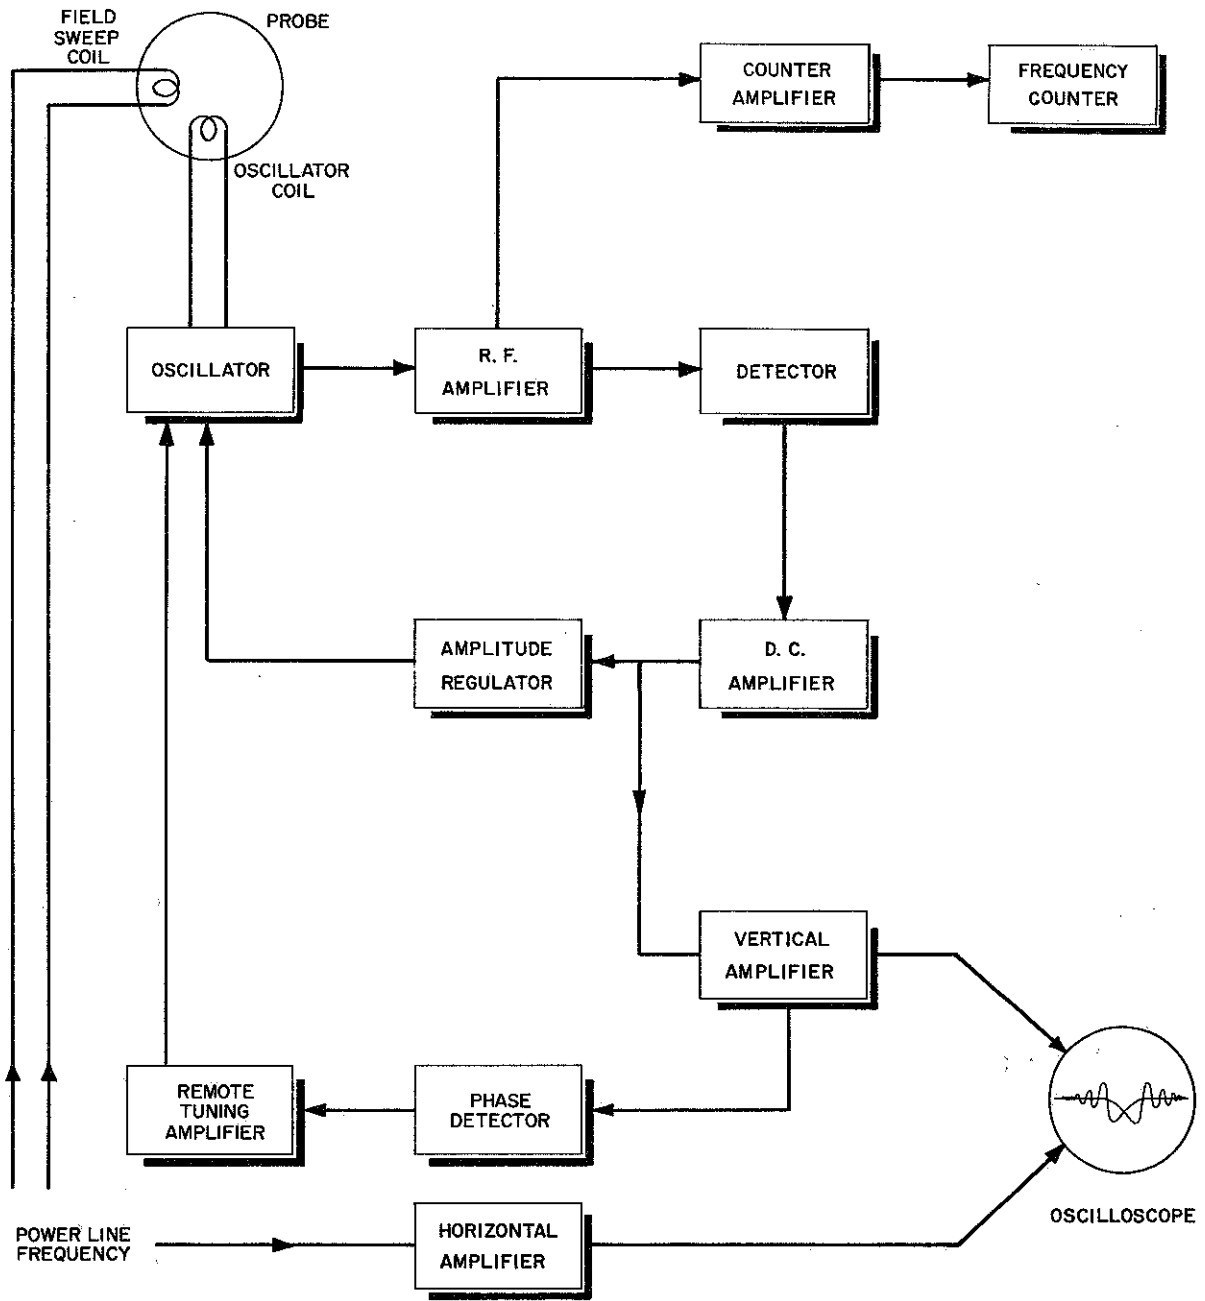

FIGURE 2. BLOCK DIAGRAM
3. FUNCTIONAL DESCRIPTION (Refer to Figure 2, page 2 .)